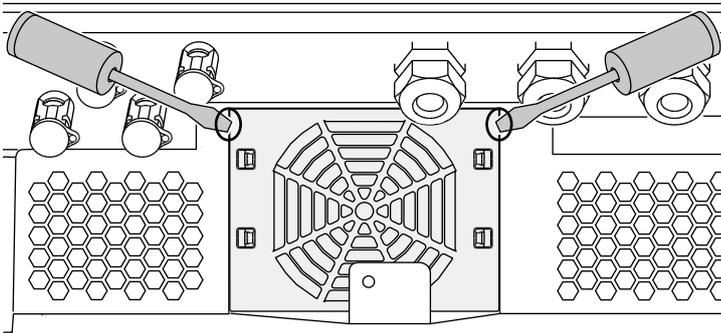

Fig. 69: Loosen fan grill
2. Dismantle the fan. To do this, place a screwdriver at the edge of the fan grill and apply slight pressure to the fan grill. ↗️ **Fig. 69**